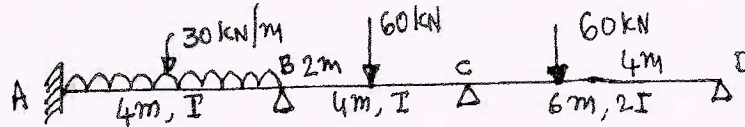

Fig.Q.1
- 1 Analyze the continuous beam shown in Fig.Q.1 by slope deflection method BMD, SFD and elastic curve. (20 Marks)